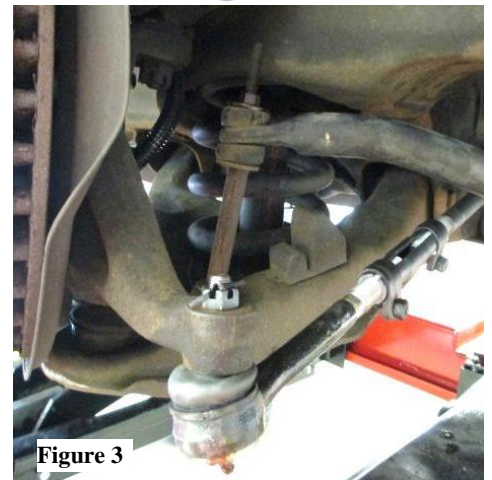

Figure 3
3. Remove the sway bar end links. See **Figure 3**.